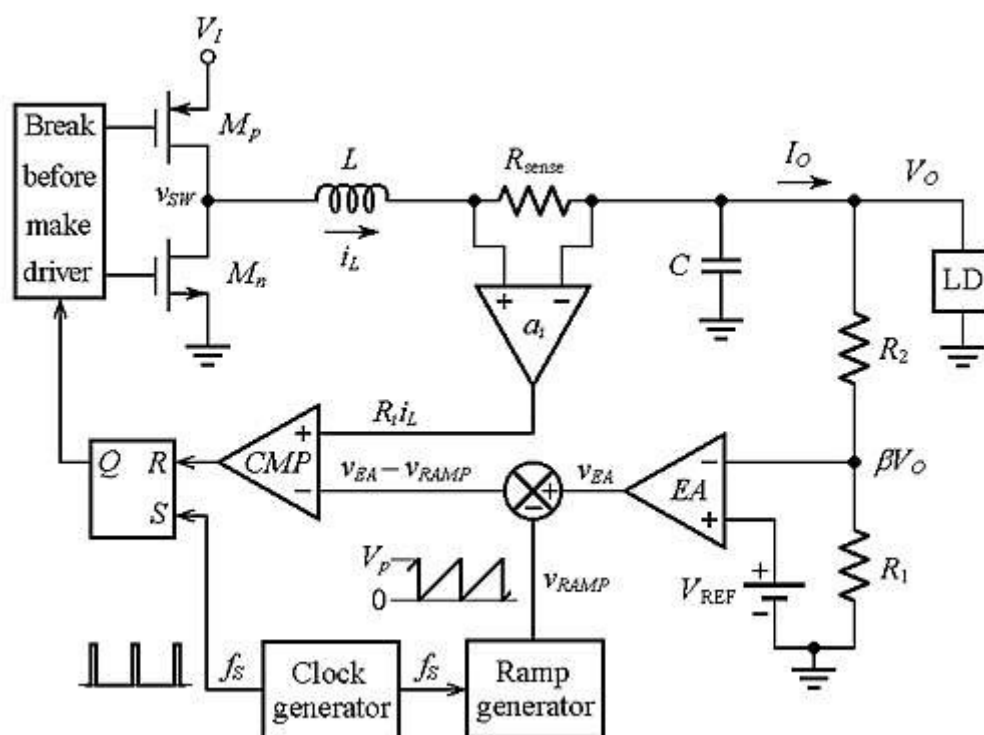
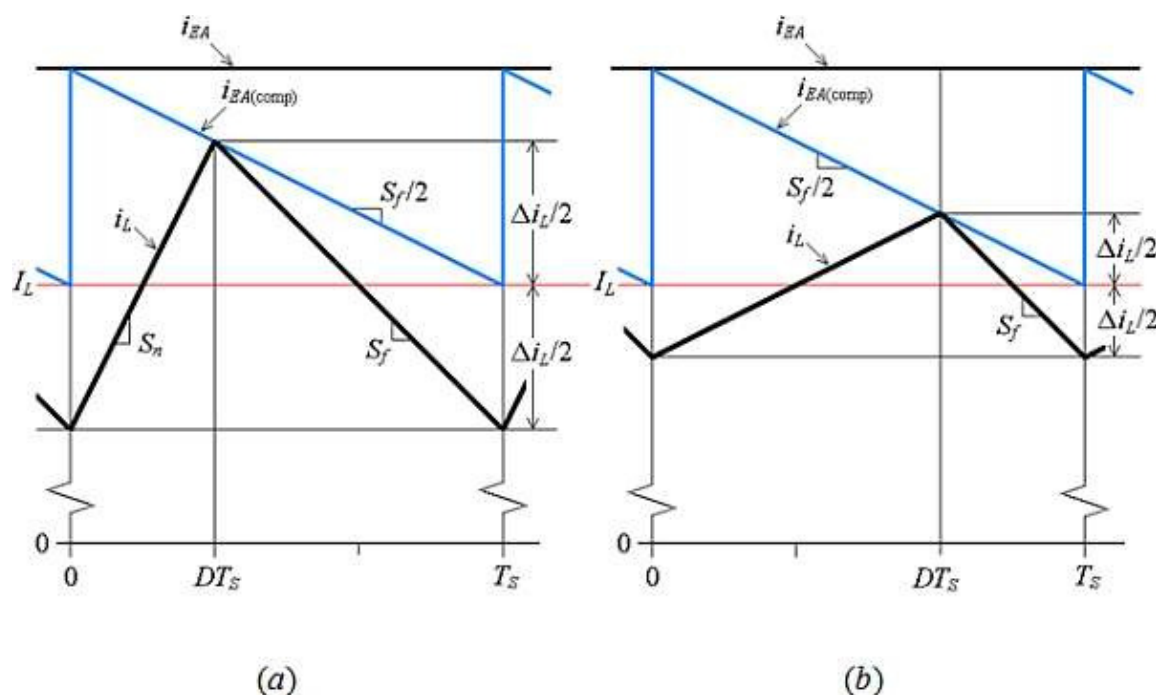
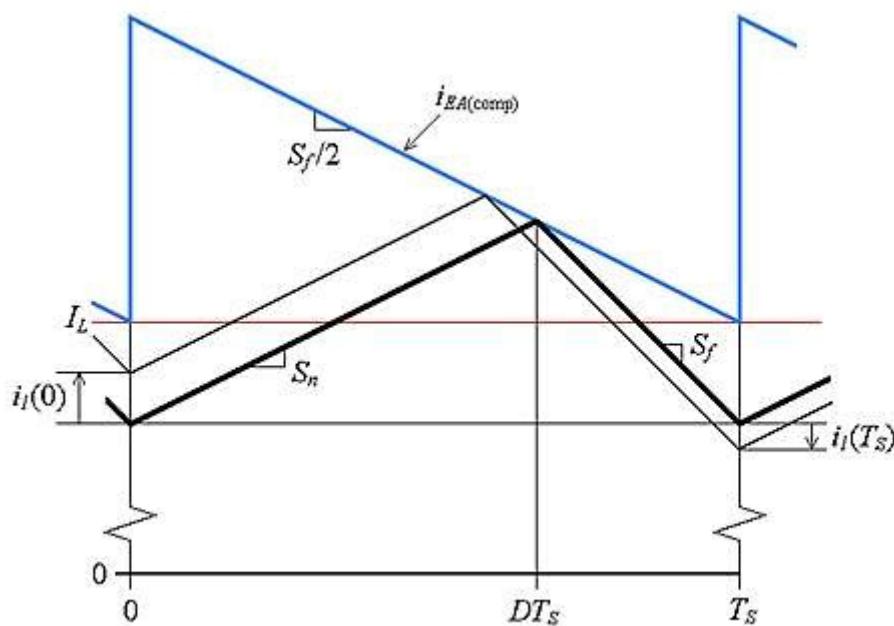

Figure 9 Incorporating slope compensation in the PCMC buck converter of Figure 3.
Figure 10 The inductor current of the circuit of Figure 9 for two different duty cycles.
Figure 11 Slope compensation prevents sub-harmonic oscillation regardless of D .
Figure 9 shows one way of modifying the circuit of **Figure 3** so as to achieve slope compensation. The circuit now includes a saw-tooth generator operating at a frequency of f_s , whose output v_{RAMP} is then subtracted from v_{EA} to produce the desired locus of peak values for i_L . With slope compensation, the waveforms of **Figure 5** change as depicted in **Figure 10**, where $i_{EA (comp)} = (v_{EA} - v_{RAMP})/R_i$.
As an added bonus, slope compensation also eliminates sub-harmonic oscillation, as depicted in **Figure 11**. Using graphical inspection, we observe that a beginning-of-cycle disturbance $i_i(0)$ will result in an end-of-cycle disturbance $i_i(T_s)$ of lesser magnitude, even though $D > 0.5$ (in fact, you can convince yourself that this holds for any value of D , $0 < D < 1$). It is the case to say that with slope compensation we are in effect killing two birds with one slope – ops stone. The error amplifier EA , shown in **Figure 9** as a mere triangle, serves two important functions: (a) to drive its inverting input voltage as close as necessary to the non-inverting one so as to approximate **Eq. (4)**, and (b) to provide a frequency profile suitable to ensure a prescribed phase margin for the whole system. Not at all an ordinary amplifier, which can easily form the body of a future blog on stability analysis and error-amplifier design.